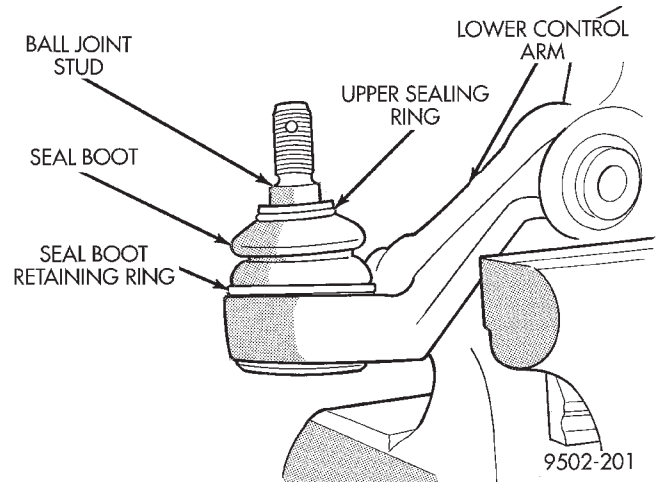

Fig. 112 Properly Installed Ball Joint Seal Boot
(8) Remove Installer, Special Tool, 6875 from the ball joint seal boot. **When removing tool from seal boot be careful not to damage the seal boot with the tool.**
(9) Check retaining ring installation on seal boot to ensure it is fully seated in seal boot groove and the ends are not twisted (Fig. 112). Also, make sure upper sealing ring is on seal boot and correctly installed (Fig. 112). Check seal boot for damage before installing back on car.
(10) Install lower control arm assembly back on vehicle. See Lower Control Arm Installation in this section of the service manual for the required installation procedure.